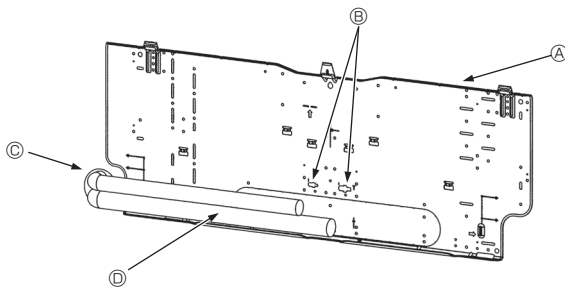

Fig. 3-5
3.3. When embedding pipes into the wall (Fig. 3-5)
- ▲ Mount board ①